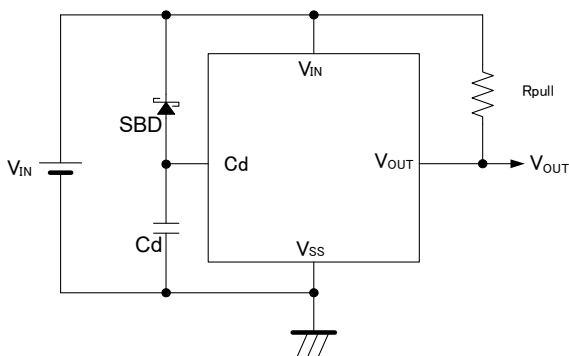

Figure 3: Circuit example with a Schottky diode connected to the C_d pin
- To place a Schottky diode between the V_{IN} pin and the C_d pin. (See Figure 3)